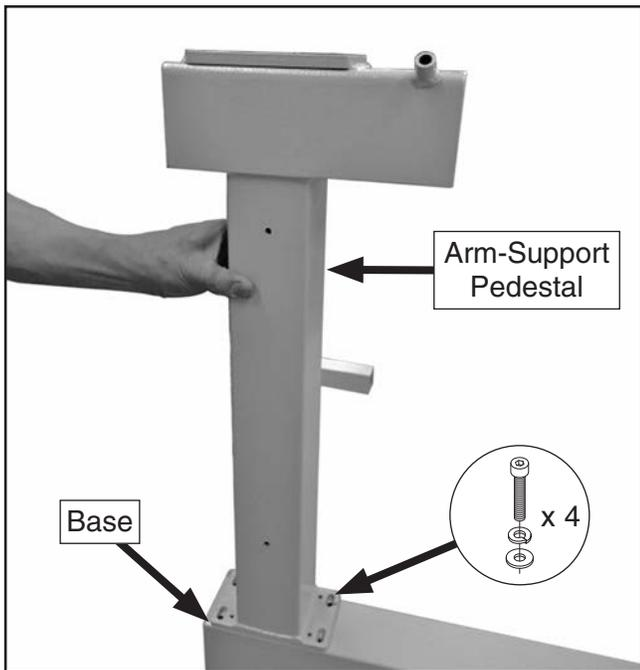

Figure 54. Installing arm-support pedestal.
- 63. Install arm-support pedestal on arm-support base, using (4) M8-1.25 x 25 cap screws, (4) 8mm lock washers, and (4) 8mm flat washers (see **Figure 54**).